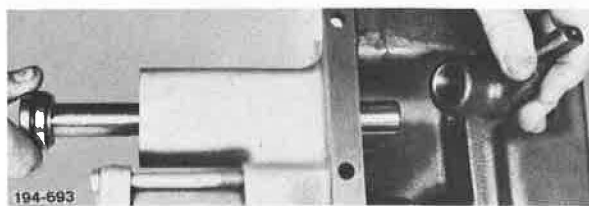

Figure 5-886. Installing Shift Rail and Shifter
20. Slide reverse shift rail into shift cover and, at the same time, install reverse shifter. See Figure 5-886.